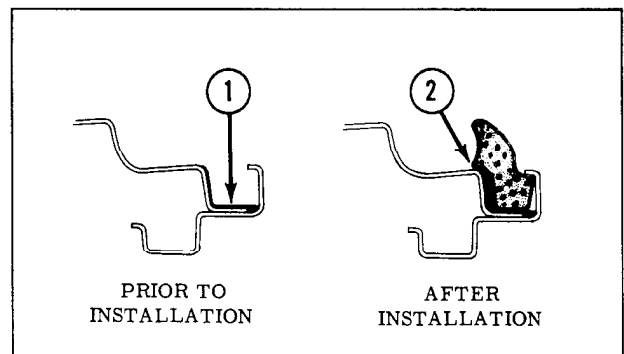

Fig. 17-90 Rear Compartment Weatherstrip Installation
2. Apply (brush) a continuous coat of neoprene type weatherstrip cement along the lower and outer surfaces of the rear compartment gutter as indicated at "1" in Fig. 17-90 around full length of gutter.
5. Using a pressure type applicator, apply neoprene type weatherstrip cement between weatherstrip and outer surface of gutter as indicated at "2" completely around gutter to assure a watertight seal. (Fig. 17-90)